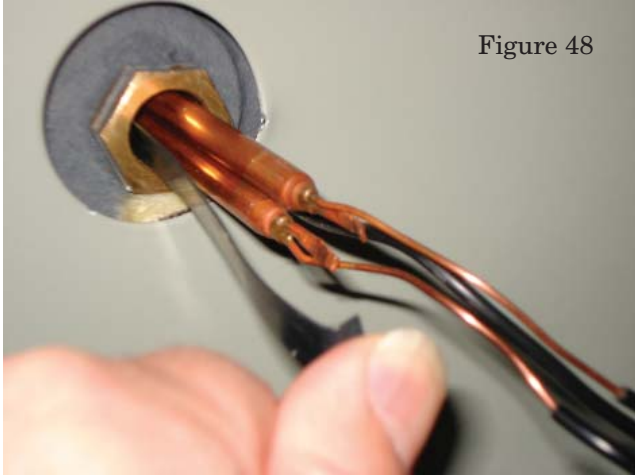

Figure 48
8. Place the bulb of the new manual reset water temperature limit along with the existing adjustable supply water thermostat and thermometer gauge bulbs in the boiler temperature well and secure with a spring clip. See Figure 48.